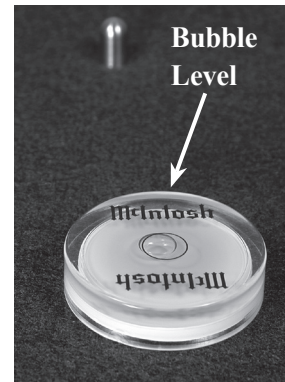

Figure 12
10. Locate the McIntosh Bubble Level and place it on the Record Mat. If the Bubble is not in the center circle of the Bubble Level, adjust the height of the Turntable Feet (by rotating them clockwise or counter clockwise) until it is level. Refer to figures 12, 13 and 14.